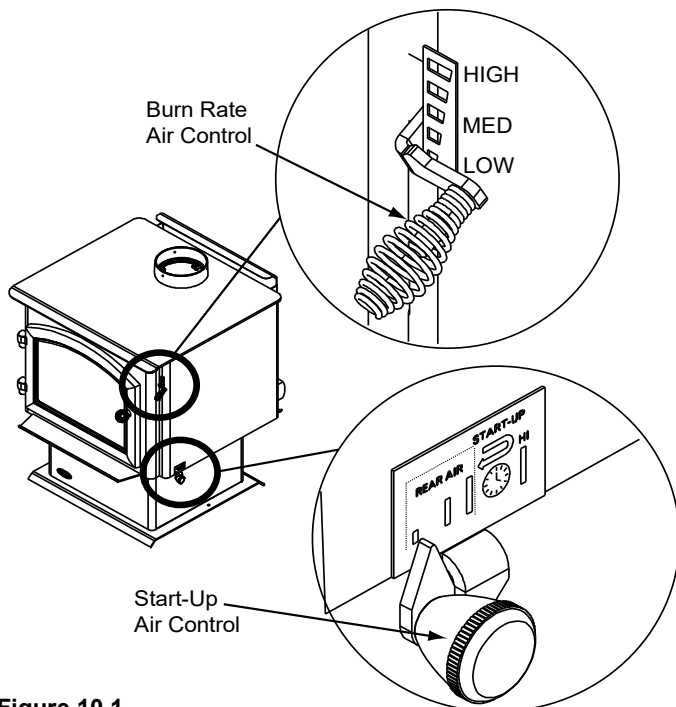

Figure 10.1
The next stage of burning, the secondary stage, is the period when the wood gives off flammable gases which burn above the fuel with bright flames. During this stage of burning it is very important that the flames be maintained and not allowed to go out. This will ensure the cleanest possible fire. If the flames tend to go out, it is set too low for your burning conditions. The air control located at the upper right hand corner is used to adjust for burn rates. This is called the Burn Rate Air Control (**Figure 10.1**).
This air supply enters at the upper front of the firebox, near the top of the glass door. This preheated air supplies the necessary fresh oxygen to mix with the unburned gases, helping to create second, third and fourth combustions. This air is regulated by the Burn Rate Air Control. When the control is moved all the way up it is on the High setting and when moved all the way down it is on the Low setting (**Figure 10.1**).
To engage the Automatic Combustion Control (ACC) timer system push the lever towards the back of the appliance to the "HI" position, then pull forwards towards the front of the appliance until the knob stops. The timer will slowly close in about 25 minutes. Use this feature when reloading fuel or if you want more air supplied to the fire (**Figures 10.1 and Figure 10.2**).
- Then activate the ACC timer system by pushing the knob all the way back toward the appliance to "HI" then pull forwards towards the front of the appliance until the knob stops (**Figure 10.1 on page 10**).